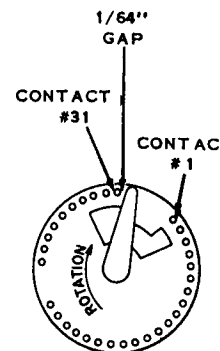

Figure 13.
10. With the Wall-O-Matic still in the Pulsing Position and with the switch lever still to the left, turn the motor manually to the Stand-by Position until the switch lever snaps to the right allowing the Signal Switch to close. The switch should close when the Contact Arm (Figure 13) is $1/64$ " minimum past the last (#31) contact.